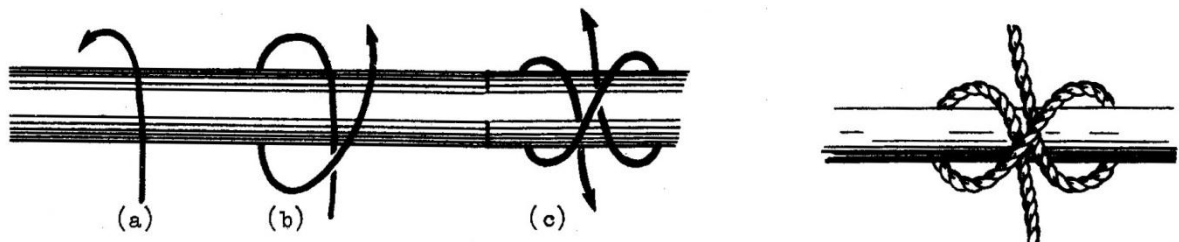

FIG. 7. CLOVE HIRCH.
3.7 Clove Hitch. A clove hitch (see Fig. 7) is used to connect a small line to a large rope or spar at right-angles or for a two way guy during erection of poles. Figs. 7a, b and c shows the way to make this hitch.